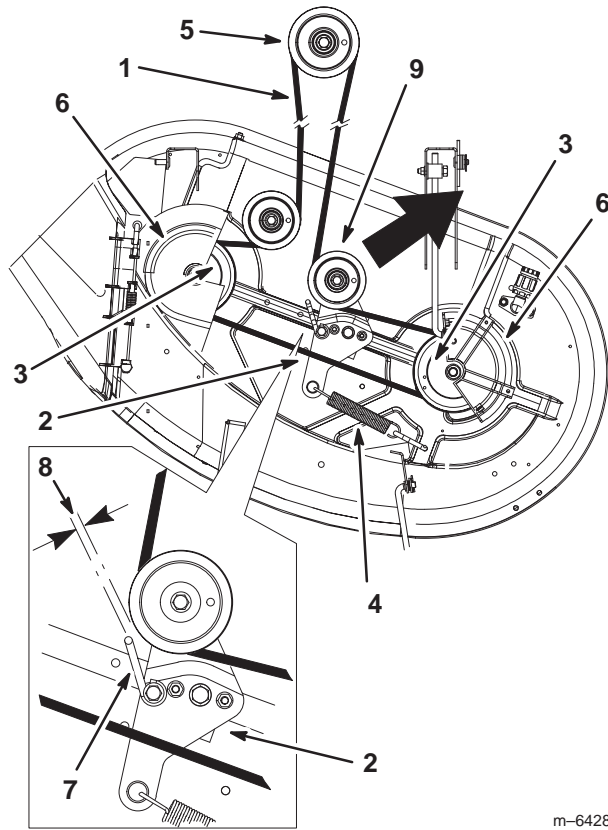

Figure 42
- Pull the idler pulley in the direction shown in Figure 42 and roll the belt off of the pulleys.
6. Route the new belt around the engine pulley and mower pulleys. Refer to Figure 42 for the correct routing.
7. Pull the idler pulley in the direction shown in Figure 42 and route the belt onto the idler pulley (Fig. 42).
8. Rotate the belt guide, on the idler arm, so it is 1/32 to 1/8 inch (0.8–3 mm) away from the side of the mower belt (Fig. 42).